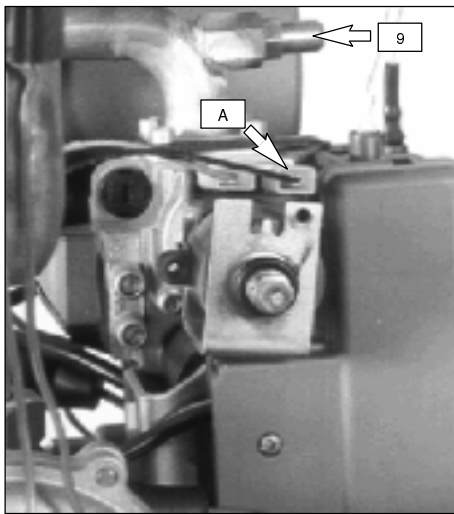

fig. 4.5
Loose the internal screw (9 in fig. 4.5) on the pressure test point for measuring outlet pressure at the gas valve and fit a pressure gauge using a hose;
disconnect the gas modulator removing the connector A (fig. 4.5).
- 3 Unscrew the gas valve's outlet pressure tap (9 in fig. 4.5) and connect a pressure gauge.